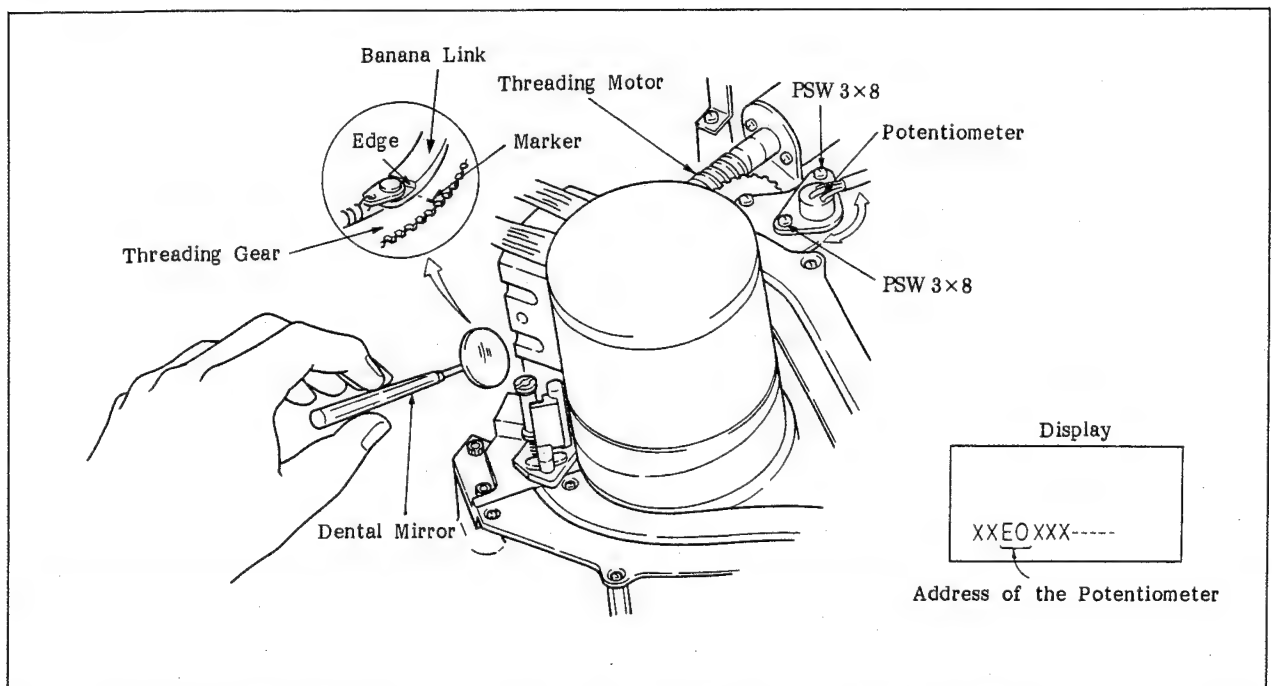

Fig. 6-63. Adjustment of the Address of the Potentiometer in Threading Condition
- g. Press the **F3** (C), **4**, **SET**, **F6** (F), **2**, **SET**, and **<** keys on the control panel in that order to set the machine in threading condition without loading a cassette tape.
- h. Place the dental mirror in a position where the threading gear and the banana link can be observed, as shown in Figure 6-63.
- j. Check that the two-digit number (address of the potentiometer) shown on the display is "E0 + 1", as shown in Figure 6-63. If it is not satisfied, loosen the two screws (PSW3 x 8) that hold the potentiometer, and then adjust it by rotating the potentiometer. Tighten the two screws firmly after adjustment.
- b. Press the **F3** (C), **4**, **SET**, **F6** (F), **2**, **SET**, and **>** keys on the control panel in that order to set the machine in unthreading condition.
- c. Check that pin S is in contact with pin T as shown in Figure 6-63. If it is not, rotate the threading motor manually so that pin S becomes in contact with pin T.